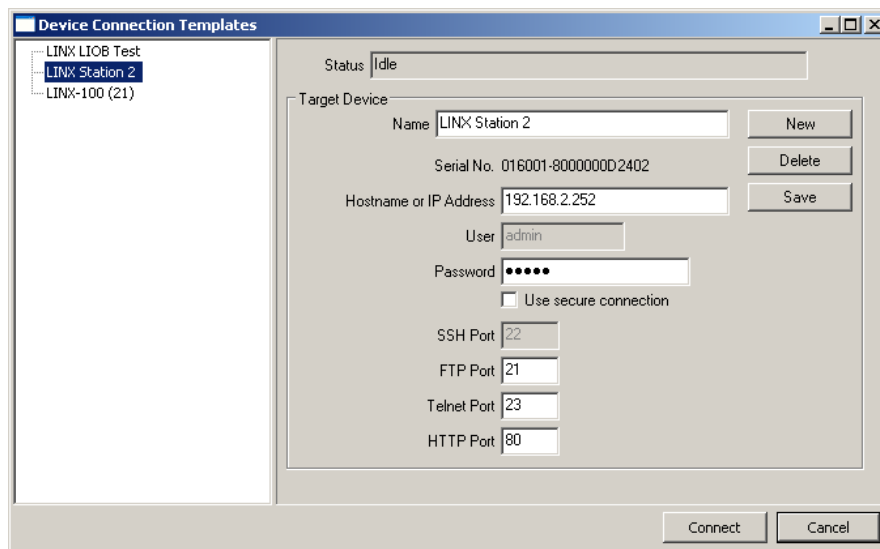

Figure 232: FTP connection dialog.
2. Select the menu: **Connection** → **Connect via FTP**. This opens the FTP connection dialog as shown in Figure 232.